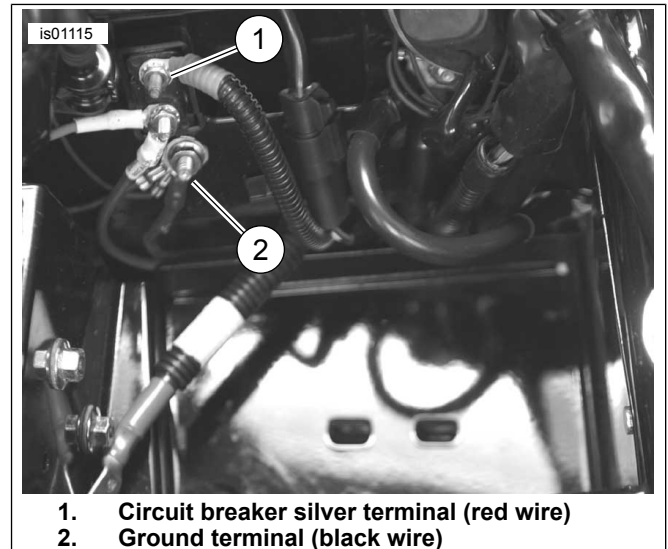

Figure 4. Connections (with battery removed) - 2003 or Earlier Touring Models (2003 FLHTCU shown)
- See Figure 4. Cut the black wire on the Zumo wire harness to reach the ground stud (2) easily. The ground stud is located below the circuit breaker in the battery well under the seat.